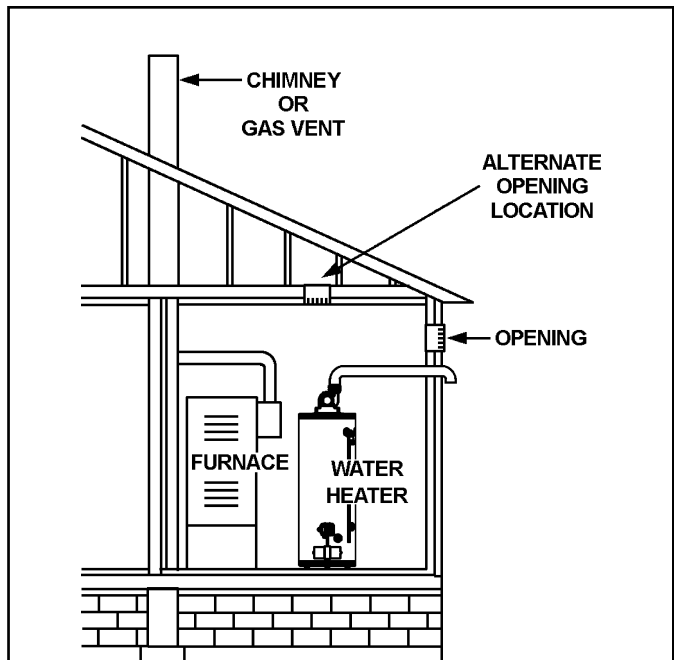

Figure 21.
5. Alternatively a single permanent opening may be used when communicating directly with the outdoors, or with spaces that freely communicate with the outdoors. The opening shall have a minimum free area of 1 square inch per 3,000 Btu/hr of total input rating of all equipment in enclosure (see Figure 21).